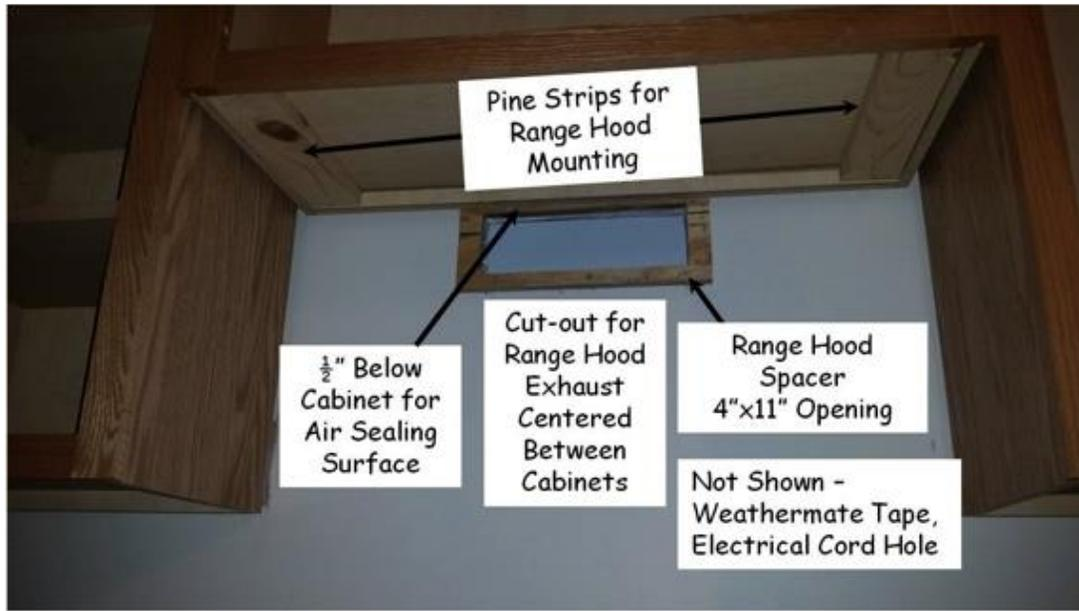

Figure 17-2. Range Hood Mounting Frame.
7. **Use an oscillating saw to** cut out the sheetrock on the lines from above and remove. Be sure the top edge of the cutout is at least ½" below the bottom of the cabinet to provide for an air sealing surface (see Figure 17-2).